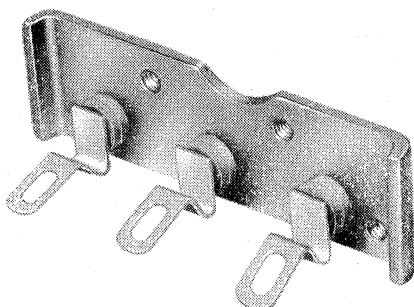

Fig. 37—Negative Rectifier Assembly
(10) Slide negative rectifier and heat sink assembly, (Fig. 37) into place in end shield. Position three diode straps on terminal block studs. Install hexagon-head metal screws through end shield and into negative